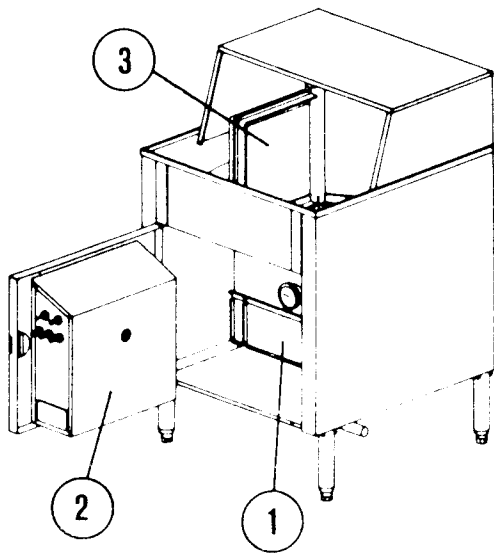

Figure 7.1
7.1.0 Cabinet Assembly (See Figure 7.1)